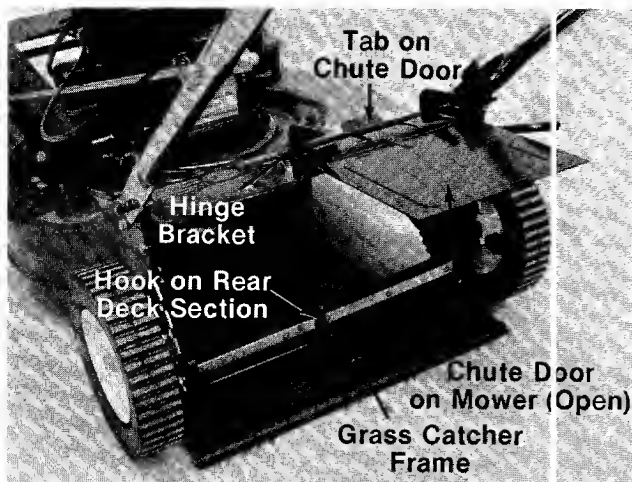

FIGURE 13.
1. Attach the grass catcher frame to rear of the mower by hooking grass catcher into hook on rear deck section. See figure 13.
Figure 13 is shown with the chute door open for photo clarity only.
2. Lift the rear of grass catcher up and slip the grass catcher frame into the slots on the hinge bracket. See figures 13 and 14.